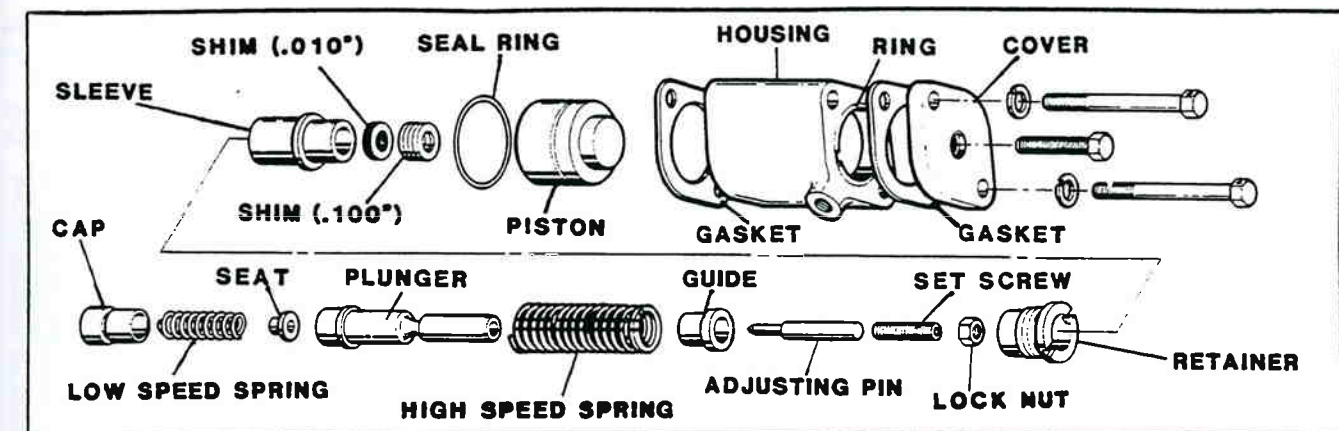

Figure 8-8. Governor Parts Breakdown.
10. Remove the two cap screws mounting the housing to the governor and remove the housing. Refer to figure 8-8.
23. Install the high speed spring retainer and tighten to two bolts (figure 8-8).
6. Refer to figure 8-8. Remove the spring retainer from the governor by rotating it counterclockwise. Use DDA special tool J-1652-01.
7. Refer to figure 8-8. Remove the two-speed governor spring assembly from inside the governor. Keep the parts intact as you guide them through the hole in the governor wall.
10. Reassemble the parts. Make sure the adjusting pin seats properly in the plunger (figure 8-8). Insert the assembly through the hole and into position inside the governor.